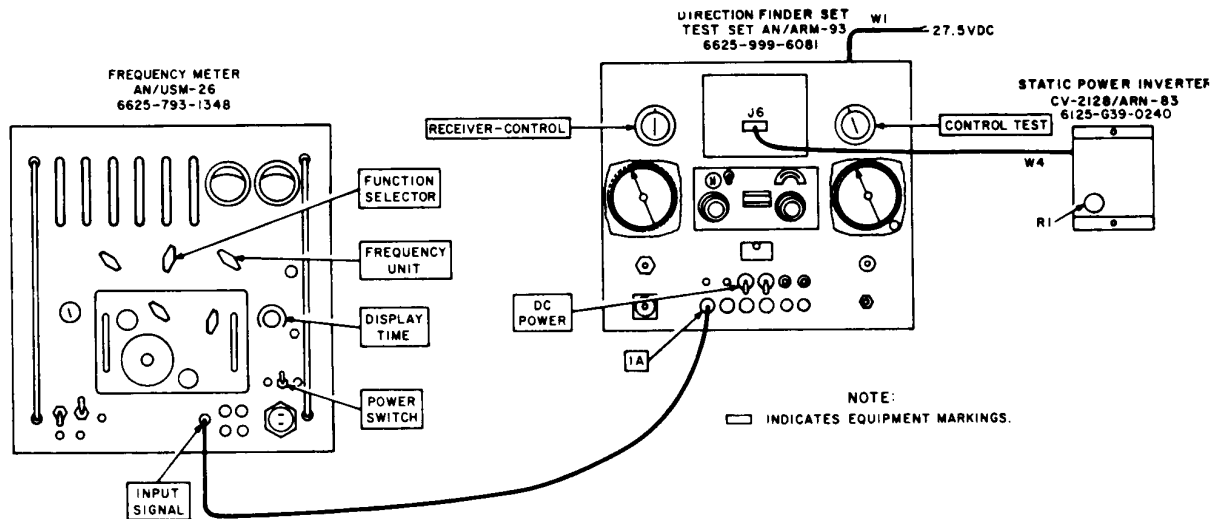

Figure 6. Test equipment connections for frequency adjustment of Static Power Inverter CV-2128/ARN-83 output.
(2) Frequency Adjustment.
- (e) Connect the equipment as shown in figure 6.